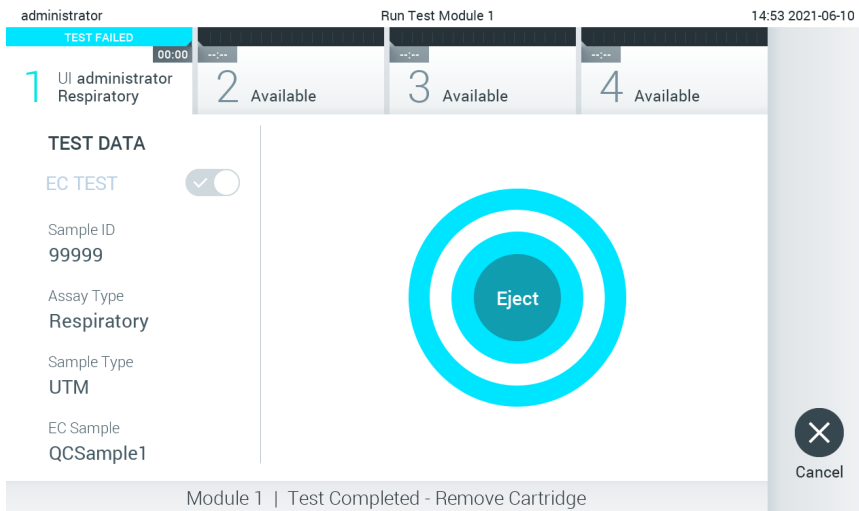

Figure 96. Eject screen display.
11. After the test run is completed, the Eject screen will appear (Figure 96). Press  **Eject** on the touchscreen to remove the QIAstat-Dx assay cartridge and dispose it as biohazardous waste in accordance with all national, state, and local health and safety regulations and laws.